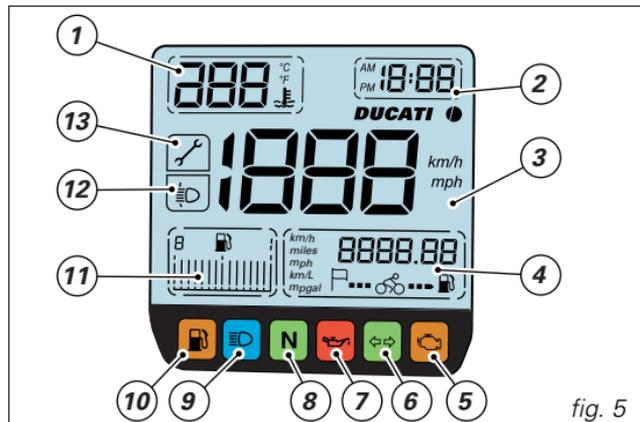

fig. 5
*This function indicates how far the vehicle can travel using the fuel left in the tank. When this display function is not selected, the display automatically switches to "Range" indication as soon as the LOW FUEL LIGHT (10, fig. 5) comes on and the display shows a string of dashes "- . - ." and the indication for 10 seconds. Range indication is then turned on automatically every 60 seconds while the low fuel light stays on.*
*When the LOW FUEL LIGHT (10, fig. 5) comes on, the display shows a string of dashes "- . - ." and the fuel pump symbol begins to flash.*
To enter this function, hold down button **(B)**, see page 11) and turn the key to **ON**; the display shows a value (fig. 11a) corresponding to beam position and the pilot light on the display (12, fig. 5) comes on.
In case of faulty immobilizer system, this procedure gives the chance to disable "engine block" function -signalled by the orange EOBD warning light (5, fig. 5).